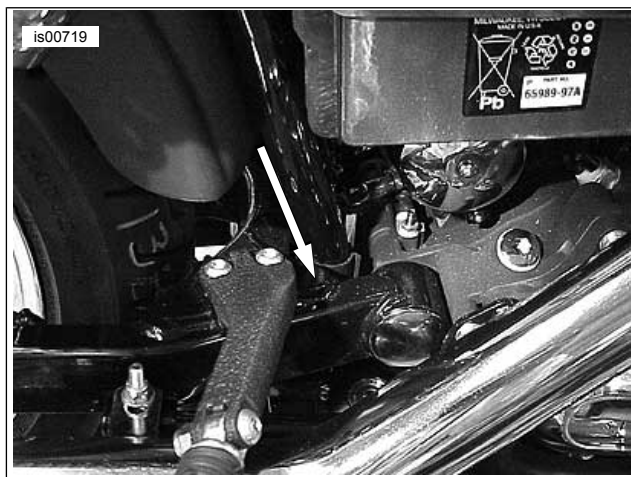

Figure 6. Rear Leverage Points (Right Side Shown, Left Side Similar)
2. See Figure 6. Using a suitable tool wrapped in a clean, soft cloth, between the swingarm and frame, as indicated by the arrow, move the rear wheel to the left or right, as necessary, to provide clearance for the gauge. Tighten the rear mount bolts while maintaining pressure on the tool. Tighten bolts to 30–37 N·m (22–27 ft-lbs).